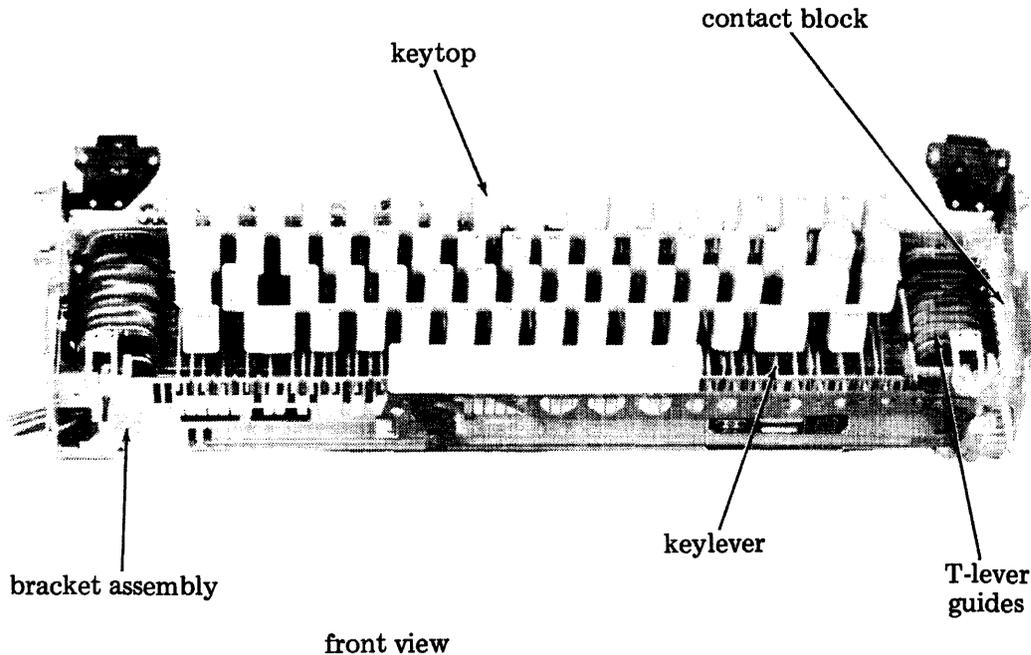

Figure 2 - Keylevers, Keytops, and Contact Block Assembly
2.03 Disassemble keylevers and keytops (Figure 2) as follows:
2.05 Disassemble contact block assembly (Figure 2) as follows: